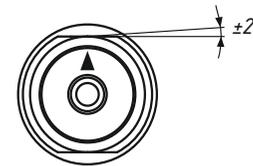

Fig. 2. Sensor orientation for low level control
- Install the sensor into the sight glass port. Orientation of the sensor for low level control - arrow up. The orientation of the sensor for upper level control is with an arrow pointing down. Figure: 2, 3.
- Place the sensor case horizontally along the flats. Figure: 2, 3. The maximum possible deviation is  $\pm 2^\circ$ .